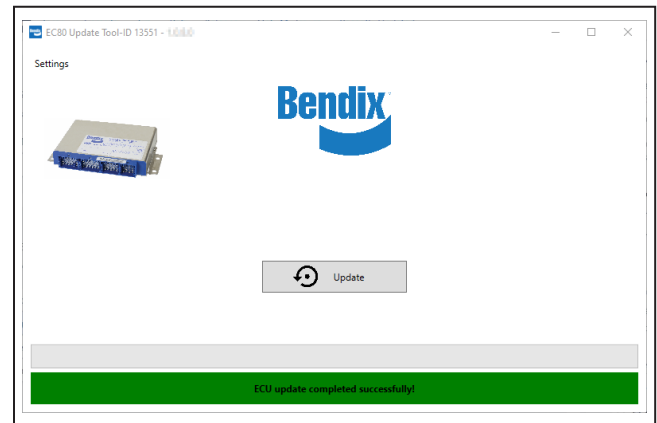

Figure 4 – Update Completed Successfully
5. Figure 4 shows the update completed successfully.